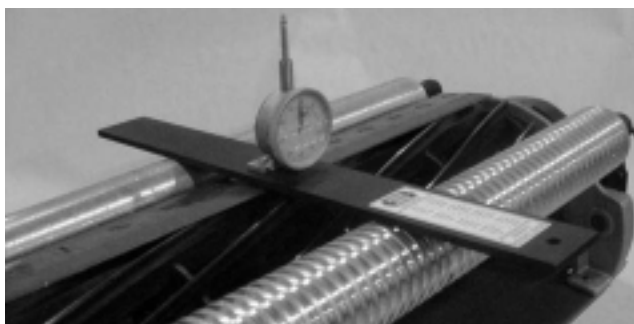

Figure 20
- Hook screw head on cutting edge of bedknife and rest rear end of bar on rear roller (Fig. 20).